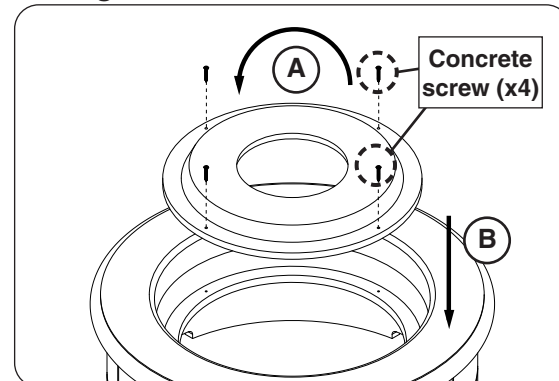

Fig. 27-5 Flip and install refractory panel
2. Flip the refractory panel and align the pilot holes. Re-install the 4 concrete screws (see Fig. 27-5).